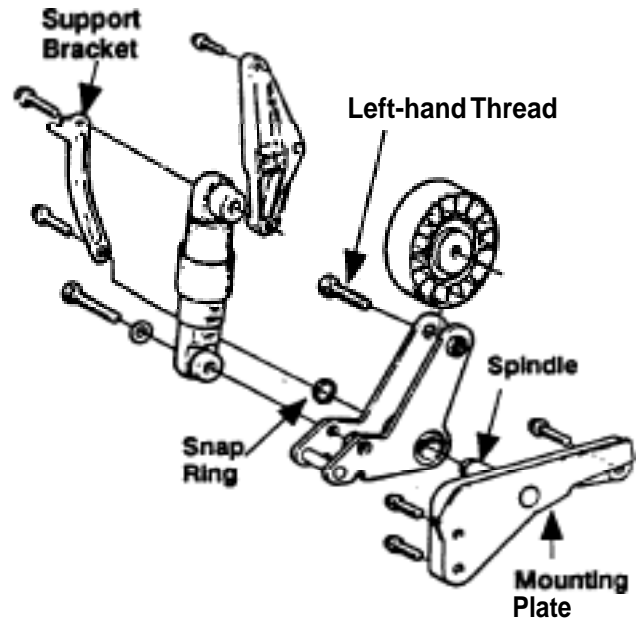

Figure 3.
7. To replace the mounting plate, remove the bolt used in the torque test, along with the snap ring behind it (Figure 3).
8. Remove the upper bolt on the support bracket (Figure 3) and slide the tensioner assembly off the spindle (the poly-vee belt can remain mated through the tension pulley).